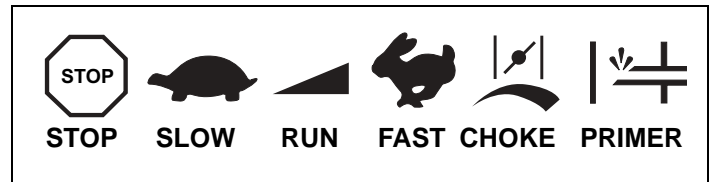

Figure 11. Typical Engine Symbols
2. Move equipment control (see equipment manufacturer's instructions) or engine throttle control to "FAST" position. See Figures 11 and 12.